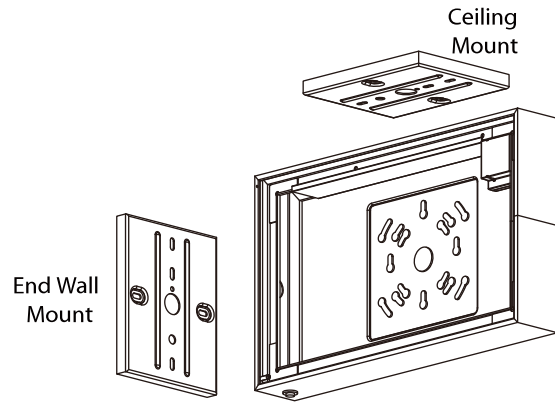

Figure 3
8. Remove any directional chevron arrows to be indicated as required from the exit stencil (Figure 3).